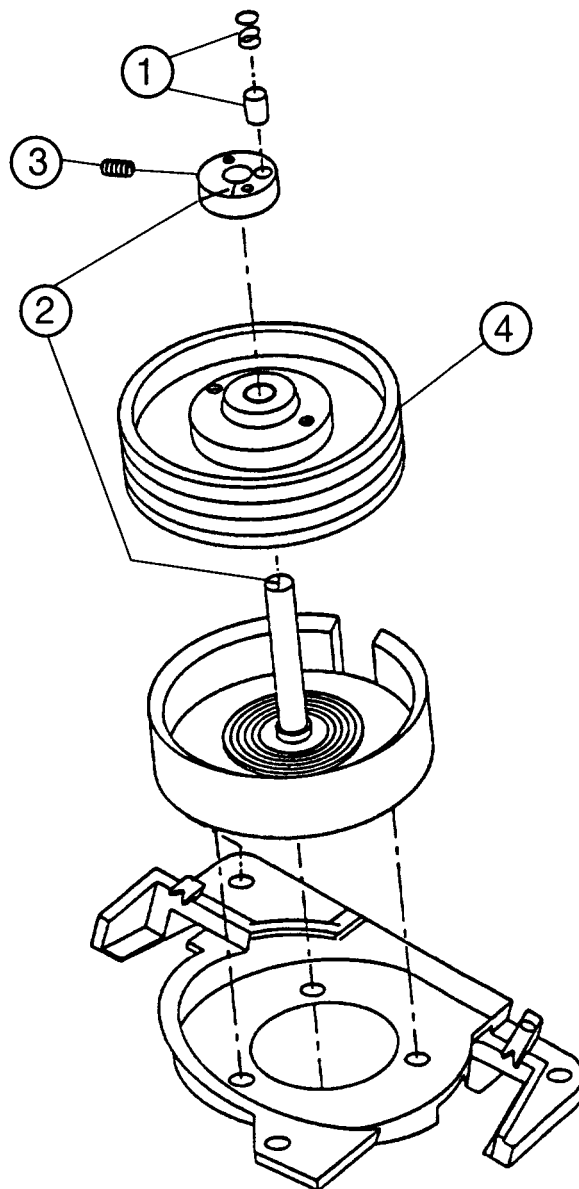

Figure 4-44(a)
- 1) Some rotary performance shims are packaged in the servicing upper drum assembly or lower drum assembly. Install the thinnest (0.06mm) of the shims onto the lower drum shaft. (Refer to Fig.4-44(b) for thickness).